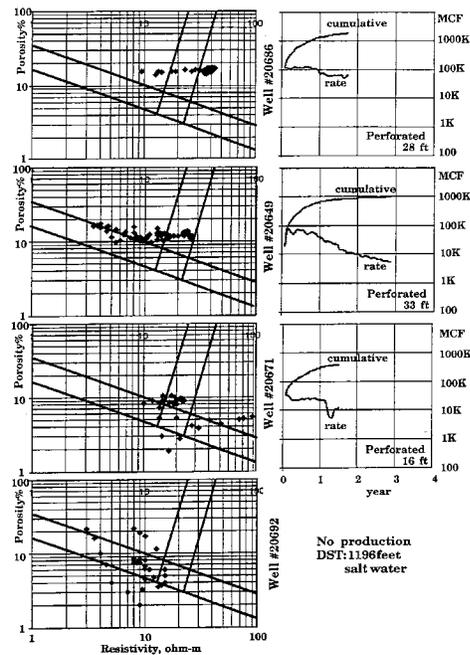

Figure 1 Pickett crossplots and corresponding production histories for the Lower Morrow sandstone in Arroyo Field, Stanton County, Kansas.
*discrete genetic interval* (DGI) as the geological unit. In each DGI, several facies (such as channel fill, crevasse splay, floodplain mudstone) are defined. In all, six DGIs were defined, DGI A through F. A comparison (Fig. 1) between the simulation results and the geologist's interpretation indicated that the generated petrophysical properties were consistent with the underlying geological description. Also, the simulation replicates the vertical sequence of each DGI seen in the field very well.
production behavior (Figure 1).